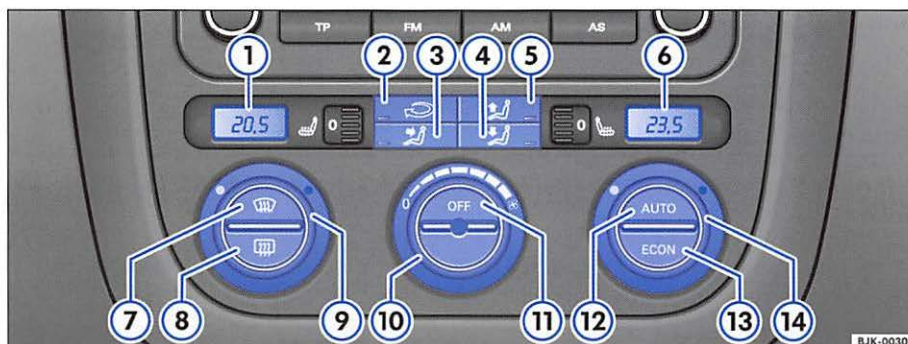

Fig. 69 On the center console: Climatronic controls
– To adjust the temperature for the left or right side, turn the appropriate temperature control ⇒fig. 69 ⑦ or ⑭.
– The functions will be switched on when one of the buttons ② to ⑤ is pressed. When a function is switched on the light in the button illuminates. Press the button again to switch off the function.
- Press the **AUTO** button ⇒page 84, fig. 69. The button lights up.
- Press and hold the **AUTO** button ⇒page 84, fig. 69 and the **ECON** button at the same time until the temperature display switches from one temperature unit to the other.